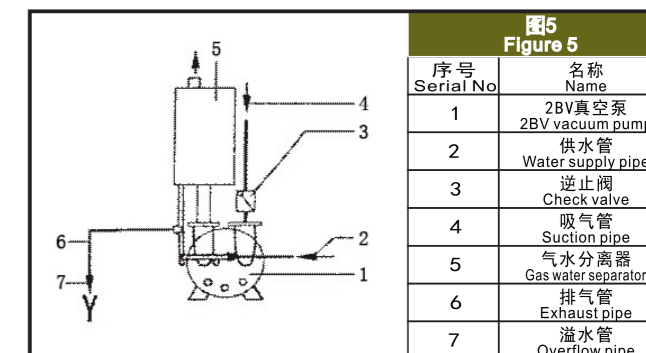

图5 Figure 5
2BV系列水真空泵及压缩机系统由真空泵(压缩机)、电动机、气水分离器管路组成，如图5气示。
2BV series water vacuum pump and compressor system consists of vacuum pump (compressor), motor and gas water separator pipeline, as shown in Fig. 5.
启动按以下顺序进行(参见图5)
- (1) 打开排气管阀门。
- (2) 启动电动机(应注意电机的正反转)
- (3) 迅速打开图5供水管2. 逐渐增加供水量, 至供水量符合规定要求为止, (应注意不要干运行真空泵)。
Start in the following order (see Figure 5)
- (1) Open the exhaust pipe valve.
- (2) Start the motor (pay attention to the forward and reverse rotation of the motor)
- (3) Quickly open Figure 5 water supply pipe 2. Increase the water supply gradually until the water supply meets the specified requirements (be careful not to run the vacuum pump dry).